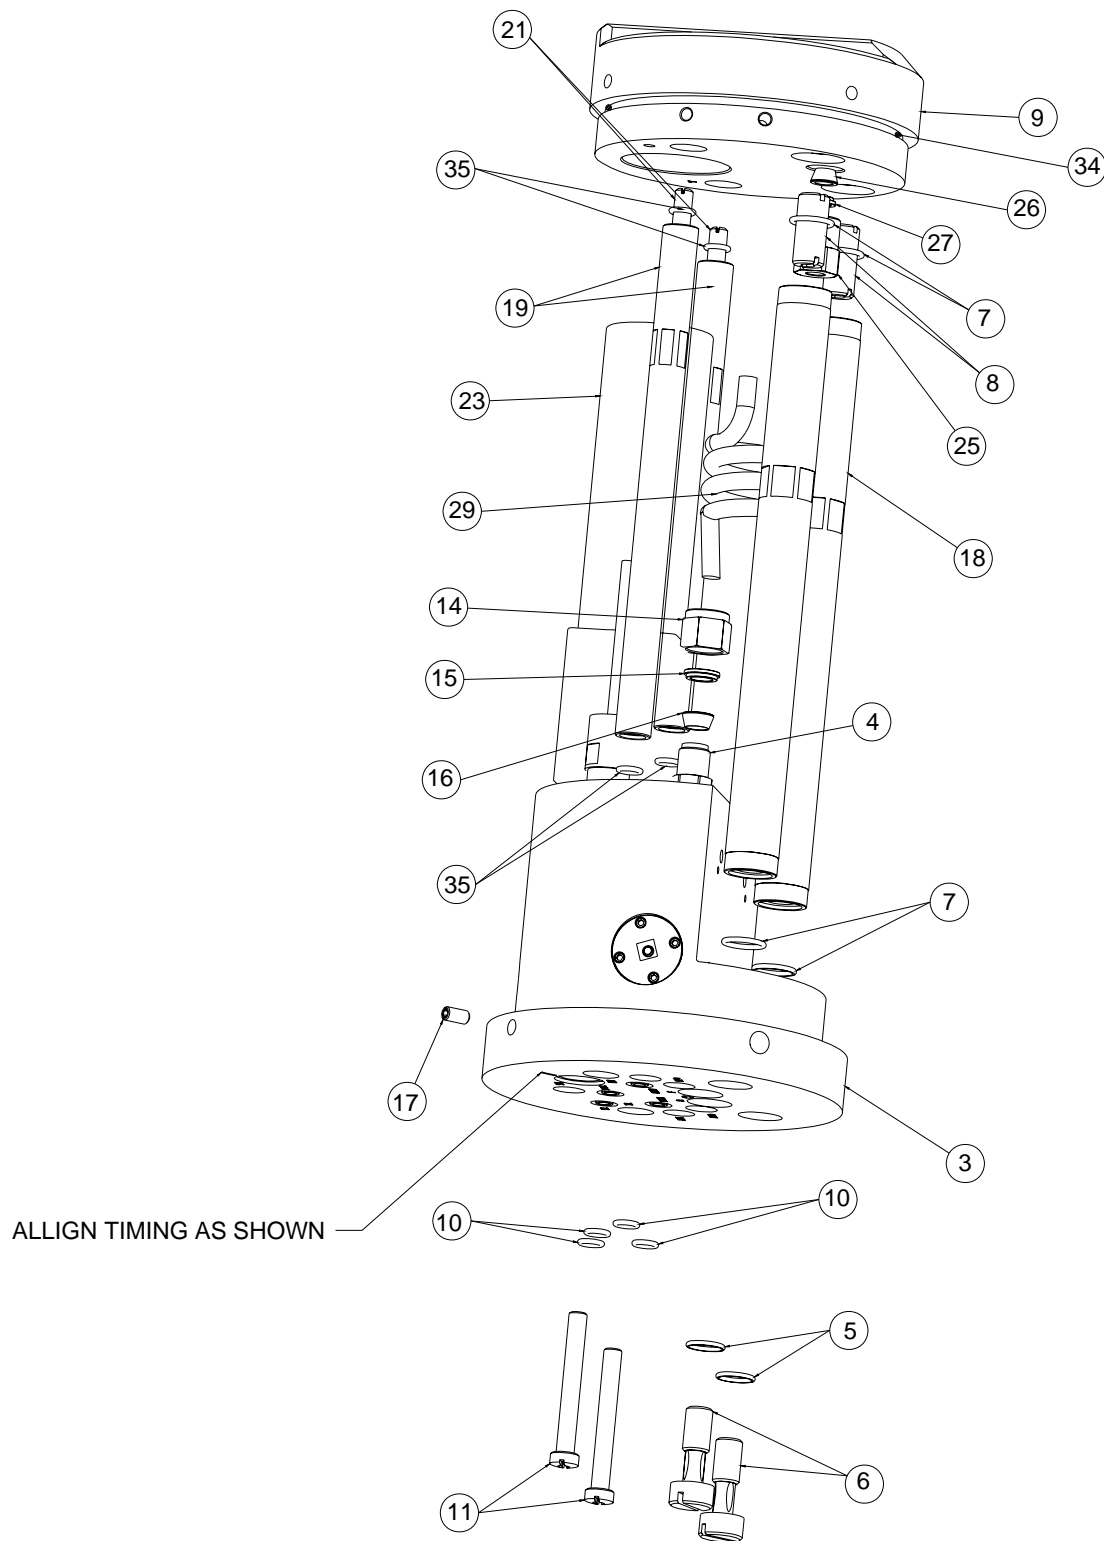

Figure 12: Disassembly of Intermediate Gun Housing
8. Remove the four (4) screws [28] from the shroud halves. Carefully pry the shroud halves [30] apart by placing a thin blade screwdriver in slot. Pull the shroud half out at the top and up from the valve manifold [3].
10. Remove the two (2) screws [6] and the two (2) screws [11] from the bottom of the valve body [3] (see Figure 12). Inspect the two (2) o-rings [5] located within the screws [6] and replace if necessary.
11. Carefully pull upward on the head manifold block [9] which will disengage from the bottom valve assembly block [3]. Inspect o-rings [7] and [34], replace if necessary (see Figure 12).
12. Remove the two (2) connecting air rods [18] and the two (2) trigger tie rods [19] by unscrewing counter-clockwise. Remove and inspect the four (4) studs [8] and [21] and the o-rings [35] and [7] and replace if necessary.
INTERMEDIATE GUN HOUSING - PARTS LIST (Figure 12)